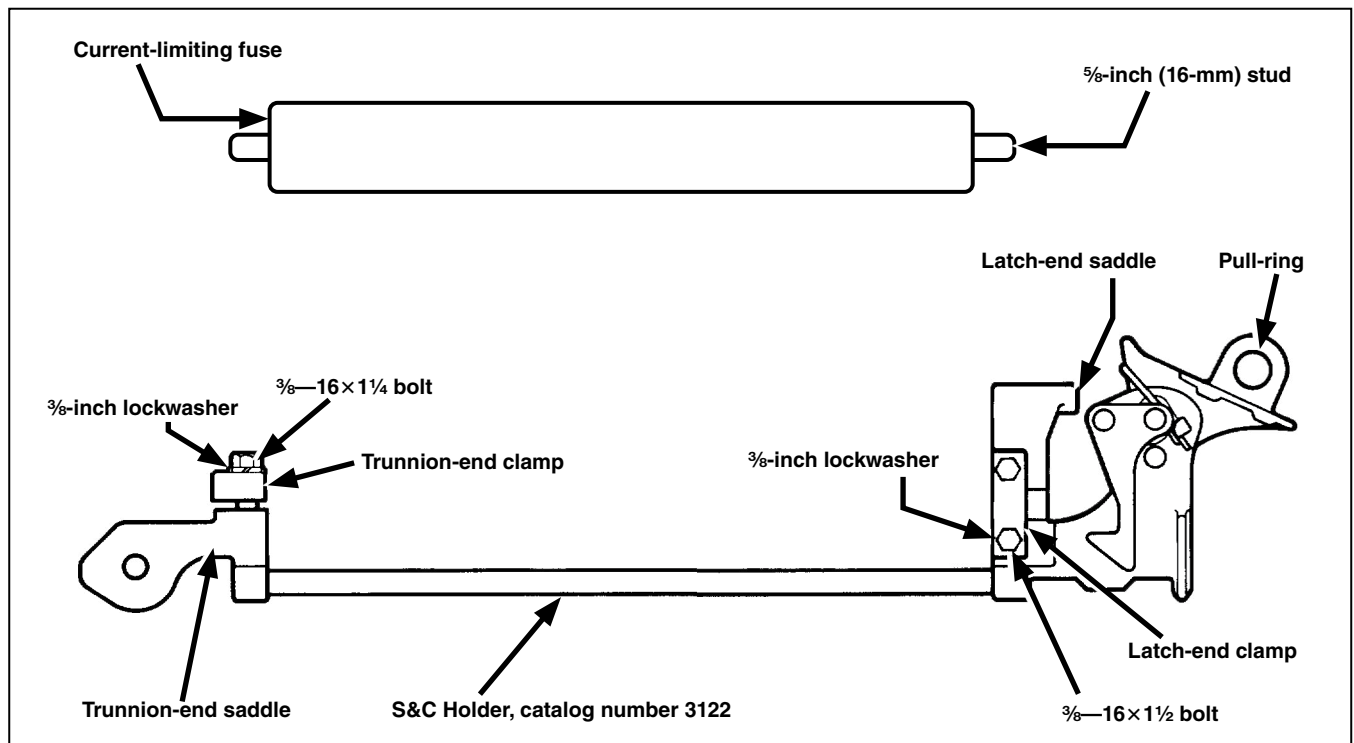
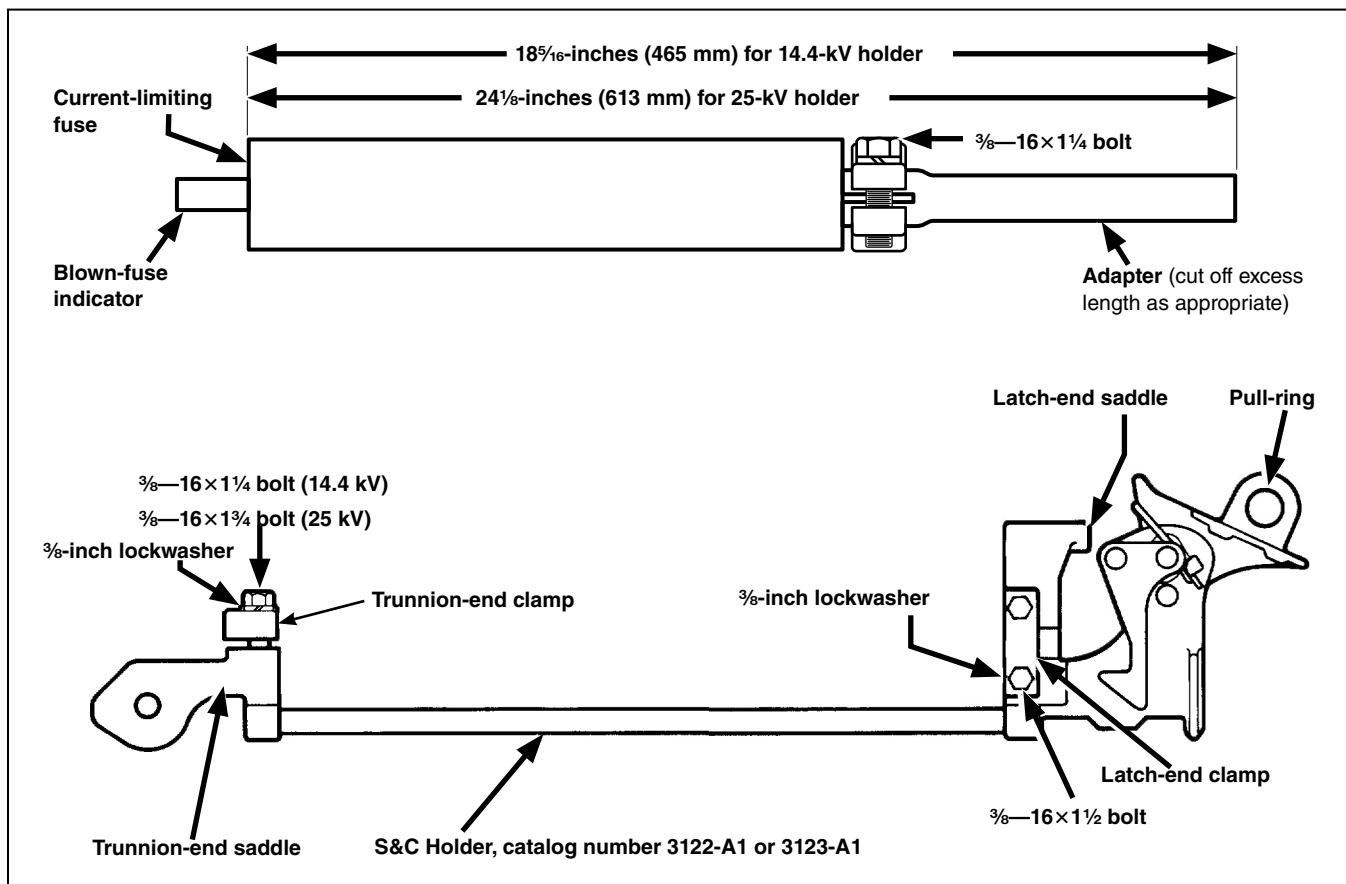

Figure 1. Installing a fuse requiring no adapter in S&C Holders, catalog number 3122.
Figure 2. installing a fuse requiring an adapter in S&C Holders, catalog numbers 3122-A1 and 3123-A1.
The latch-end adapter, when required, is furnished with the S&C Holder and is signified by an “-A1” suffix to the holder catalog number. See Figure 2 on page 8.
If the catalog number of the S&C Holder includes a suffix (“-A1,”) install the adapters furnished with the holder as instructed in the “Installing Adapters on the Fuse” section. If the catalog number of the holder does not include a suffix, no adapters are required to install the fuse in the holder. See “Figure 1. Installing a fuse requiring no adapter in S&C Holders, catalog number 3122” on page 6. In that case, proceed directly to the “Installing a Fuse in the Holder” section on page 8.
**STEP 1.** Loosen the  $\frac{3}{8}$ -inch stainless steel hex-head bolts of the adapter and slip the adapter over the  $\frac{5}{8}$ -inch (16-mm) diameter stud at one end of the current-limiting fuse. See Figure 2 on
Depending on the length of the fuse, the adapter may have to be shortened to fit the fuse and adapter assembly in the S&C Holder. The length from the bottom of the fuse barrel to the top of the adapter should be  $18\frac{5}{16}$ -inches (465 mm) for the 14.4-kV holder and  $24\frac{7}{8}$ -inches (613 mm) for the 25-kV holder. See Figure 2. If necessary, shorten the adapter by cutting off any excess length with a hacksaw. Remove any burrs from the sawed edge of the adapter.
Refer to Figure 1 on page 7 or Figure 2 and follow these steps to install the current-limiting fuse in the S&C Holder:
- STEP 1.** Unbolt the 3/8-inch stainless steel hex-head bolts of the holder's trunnion-end and latch-end clamps and remove the clamps. See Figure 1 on page 7. Then, remove the blown fuse from the holder and discard the fuse.
- STEP 1.** Unbolt the 3/8-inch stainless steel hex-head bolts of the holder's trunnion-end and latch-end clamps and remove the clamps. See Figure 2 on page 8. Then, remove the fuse and adapter assembly from the holder. Loosen the adapter's 3/8-inch stainless steel hexhead bolts and remove the adapter from the fuse. Discard the blown fuse.
***For fuses with blown-fuse indicators:*** Install the adapter on the stud opposite the indicator and tighten the bolts securely. Depending on the fuse length, the adapter may have to be shortened to fit the fuse and adapter assembly in the S&C Holder. The length from the bottom of the fuse barrel to the top of the adapter should be 185/16 inches (465 mm) for the 14.4-kV holder and 241/8 inches (613 mm) for the 25-kV holder. See Figure 2 on page 8. If necessary, shorten the adapter by cutting off any excess length with a hacksaw. Remove any burrs from the sawed edge of the adapter.